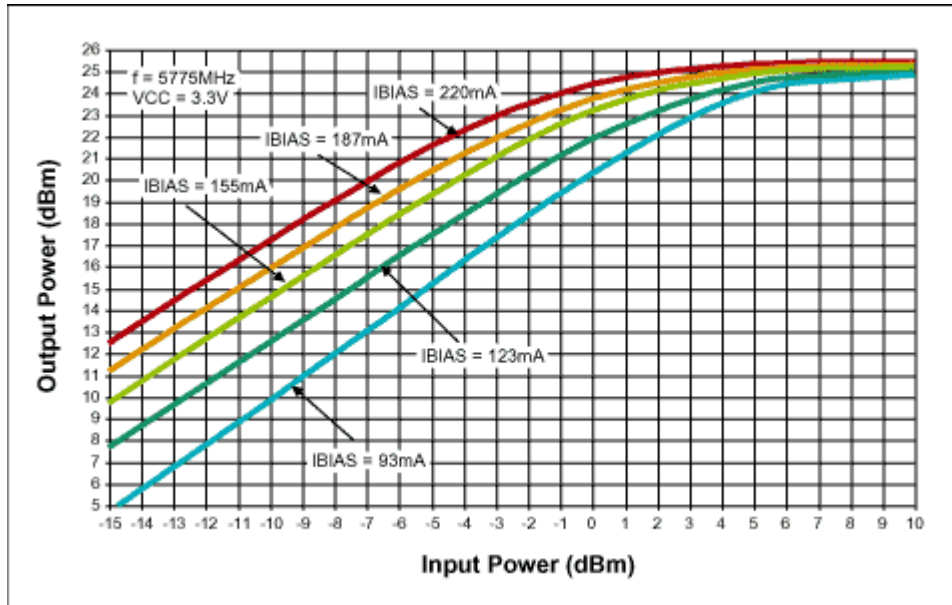

Figure 1. The MAX2840 5.8GHz PA output power vs. input power
- **Output Power.** Please refer to Figure 1 for a graph of output power vs. input power for various bias settings. The gain of the power amplifier can be optimized from 20 to 27dB by adjusting the bias current of the PA.